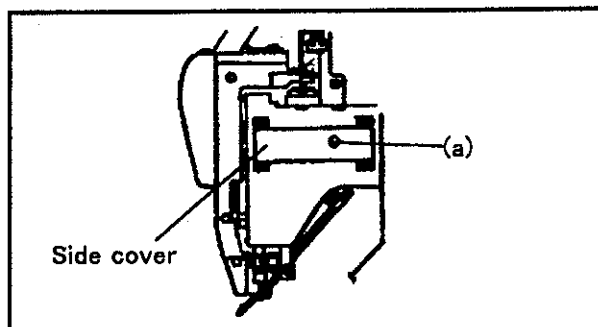

FIG.2
- (2) Loosen the retaining screw (a) and adjust the height. Tighten the retaining screw (a) after adjustment (Fig.2).